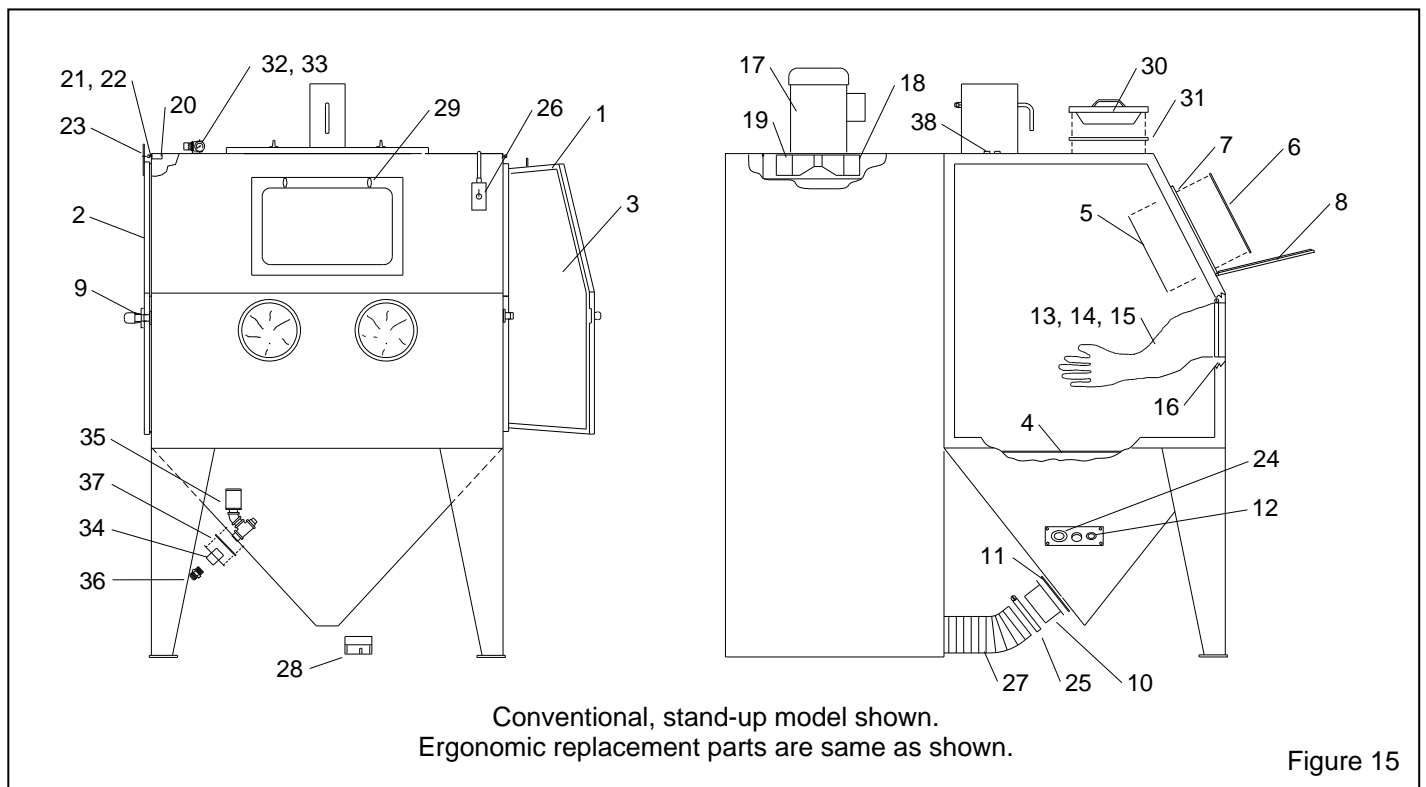

Figure 15
9.2 Cabinet Assembly, Figure 15